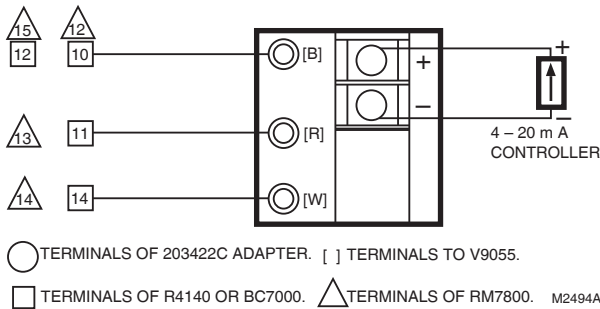

Fig. 5. Hookup of V9055 for firing rate control with a 4-20 mA input.
7. If the V9055 is being used for firing rate control, connect system according to the drawing in Fig. 5.